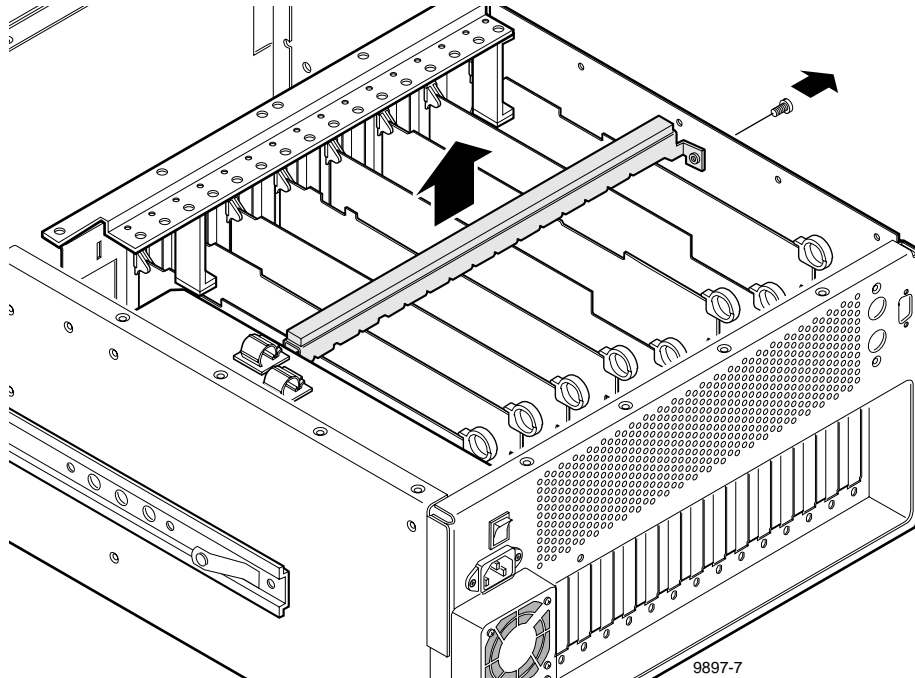

Figure 10. Removing the circuit board retainer
- a. Remove the circuit board retainer as shown in Figure 10.
5. Reinstall the circuit board retainer (refer to Figure 10 on page 37).